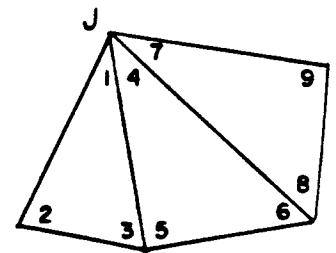

Fig 2
- 4-2) Figure 2 shows a joint 'J' where 3 triangles concur . As this joint is being treated in program's running, the user will be invited to make entries , and besides what will appear in the display to orient him, her, the following simple rules must be obeyed :
4-2-2) A joint (knot) J is being considered (fig 2). In the case illustrated three triangles are to be computed (may be one to several). The order of triangle treatment is not relevant, but of course it is easier to follow a sequence, as :
On the other hand, it is mandatory to begin each triangle with the angle contiguous to the joint in question (for fig 2, 1 in the first, 4 in the second, 7 in the third triangle.) For the other 2 couples in each triangle the order is irrelevant, but again it helps to adopt a rule; for example, counter-clockwise, we'd get the sequences cited above. After the n triangles have been processed, and the program asks for elements of the n+1 triangle (nonexistent), enters zero and run - the next joint will be ready.